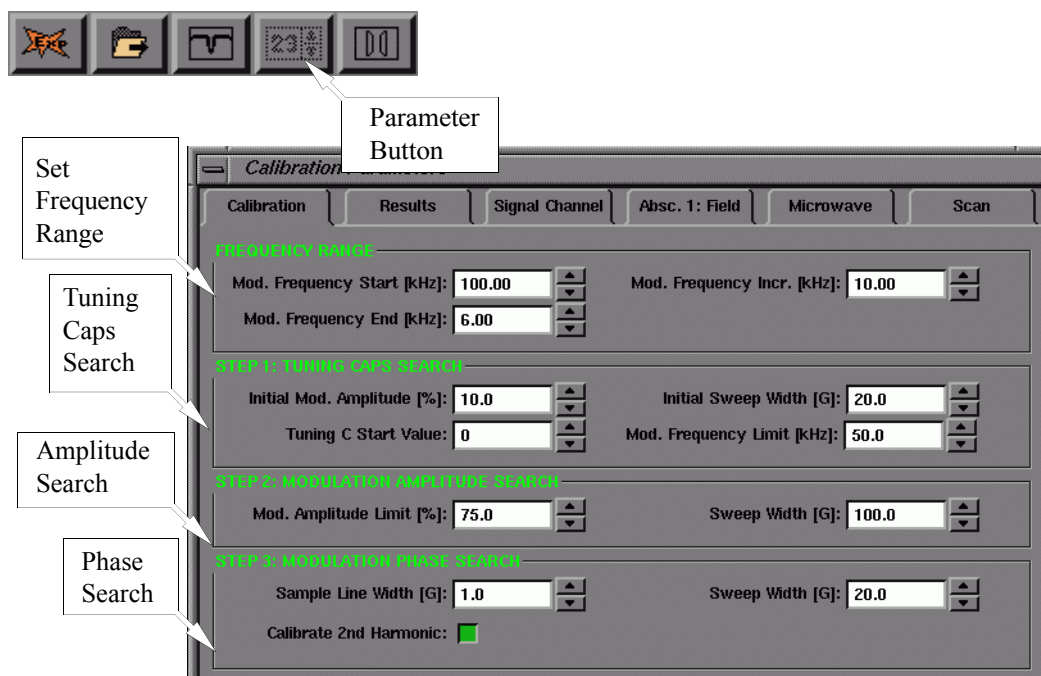

Figure 17-6 The Calibration Parameters dialog box.
3. **Open the parameter dialog box.** Click the Parameter button to open the Calibration Parameters dialog box. If the Calibration folder is not in front, click its tab to bring it to the front. (See Figure 17-6.)
4. **Set the calibration frequency range.** A calibration is required for each modulation frequency that you intend to use. The SCT/H signal channel, has a range of 100 kHz to 6 kHz in 0.1 kHz steps. The SCT/L signal channel covers the frequency range of 6 kHz to 100 Hz in 1 Hz steps. Most people will normally run all their spectra using 100 kHz modulation, but under some special circumstances, other frequencies may be desirable. A good approach to take is to calibrate the signal channel every 10 kHz from 100 kHz to 10 kHz. A sufficiently large range of frequencies is then covered for most EPR experiments. Enter the **Mod. Frequency Start [kHz]** (usually 100 kHz), **Mod. Frequency End [kHz]** as well as the **Mod. Frequency Increment [kHz]** values. The start value must be greater than the end value. (See Figure 17-6.) Note that you should set the start and end values equal to each other for ER 4122SHQE or ER 4119HS cavities so that only one frequencies at a time is calibrated. (See the warning in the lefthand margin.)
5. **Set initial values for the tuning caps search.** The parameters in this section set the starting values for the tuning capacitor search. (See Figure 17-6.) The **Initial Modulation Amplitude** defines the modulation amplitude used when optimizing the tuning capacitors. The default value, 10%, is appropriate for most cavities and resonators. The default **Initial Sweep Width** of 20 G works well for a DPPH sample. If you know an approximate optimal value for the tuning capacitors at 100 kHz, you can enter that value in **Tuning C Start Value**. This will save you time because otherwise the searching routine will start from 0 nF. **Mod Frequency Limit** is always set at 50 kHz because skin depth poses less of a problem at lower frequencies.
6. **Adjust the Mod. Amplitude Limit.** The **Mod. Amplitude Limit** parameter limits the size of the signal sent to the modulation amplifier. This prevents damage to the coils owing to excessive current. Enter a value of 75% for an ER 4122 SHQ cavity. For Flex-line resonators, a value of 10% is more appropriate. A value of 30% works well for ER 4122SHQE and ER 4119HS cavities. 40% is appropriate for most of the other cavities. It is always safe to set this value a bit low as you will adjust this value later. A **100 G Sweep Width** is sufficient for most resonators. (See Figure 17-6.)
7. **Enter values for the modulation phase search.** The parameters in this step depend on your calibration sample. The default values of 1 G Sample Line Width and 20 G Sweep Width work well with the Bruker DPPH standard. The signal channel can produce either a first harmonic (first derivative) or a second harmonic (second derivative) spectrum. If you have no need for second harmonic spectra and wish to save a bit of time in the calibration routine, you may deselect this option by clicking the **Calibrate 2nd Harmonic** button. The green color indicates that the option is selected. (See Figure 17-6.)